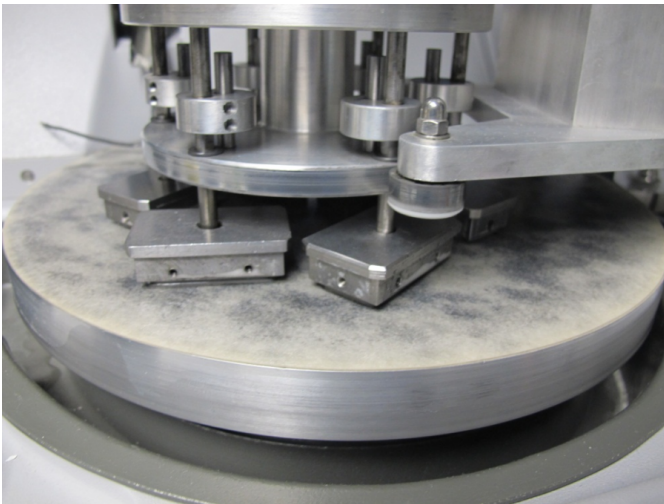

Figure 3
2. During the run the polishing pad will turn gray (Fig. 3).